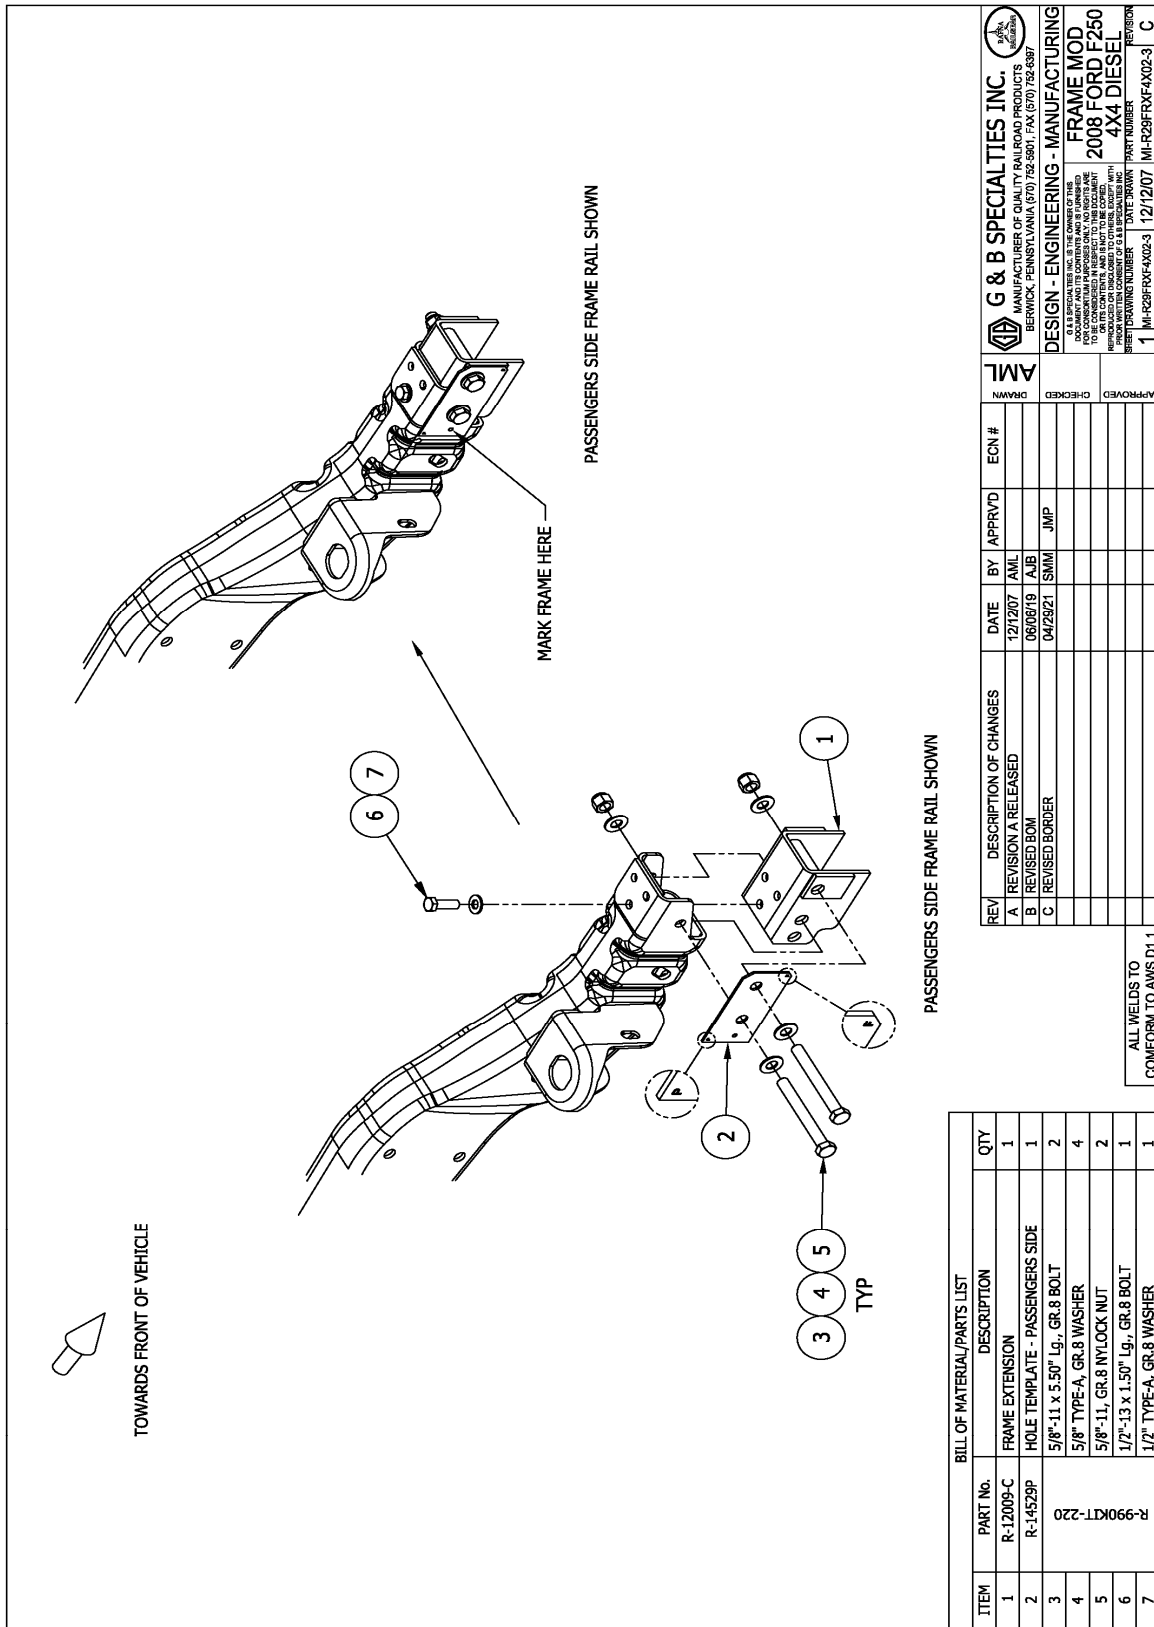

Figure 3
8. On the outside of the passenger's side frame rail, bolt the passengers side hole template to the frame extension and truck frame using 5/8" hardware as shown in **Figure 3 or 3A**. The hole template should be level with the top of the frame extension, not the truck frame, and flush with the front of the frame extension. Using a 1/4" center punch, mark the truck frame for the remaining hole using the hole in the template as a guide. Remove the hole template and frame extension from the truck.